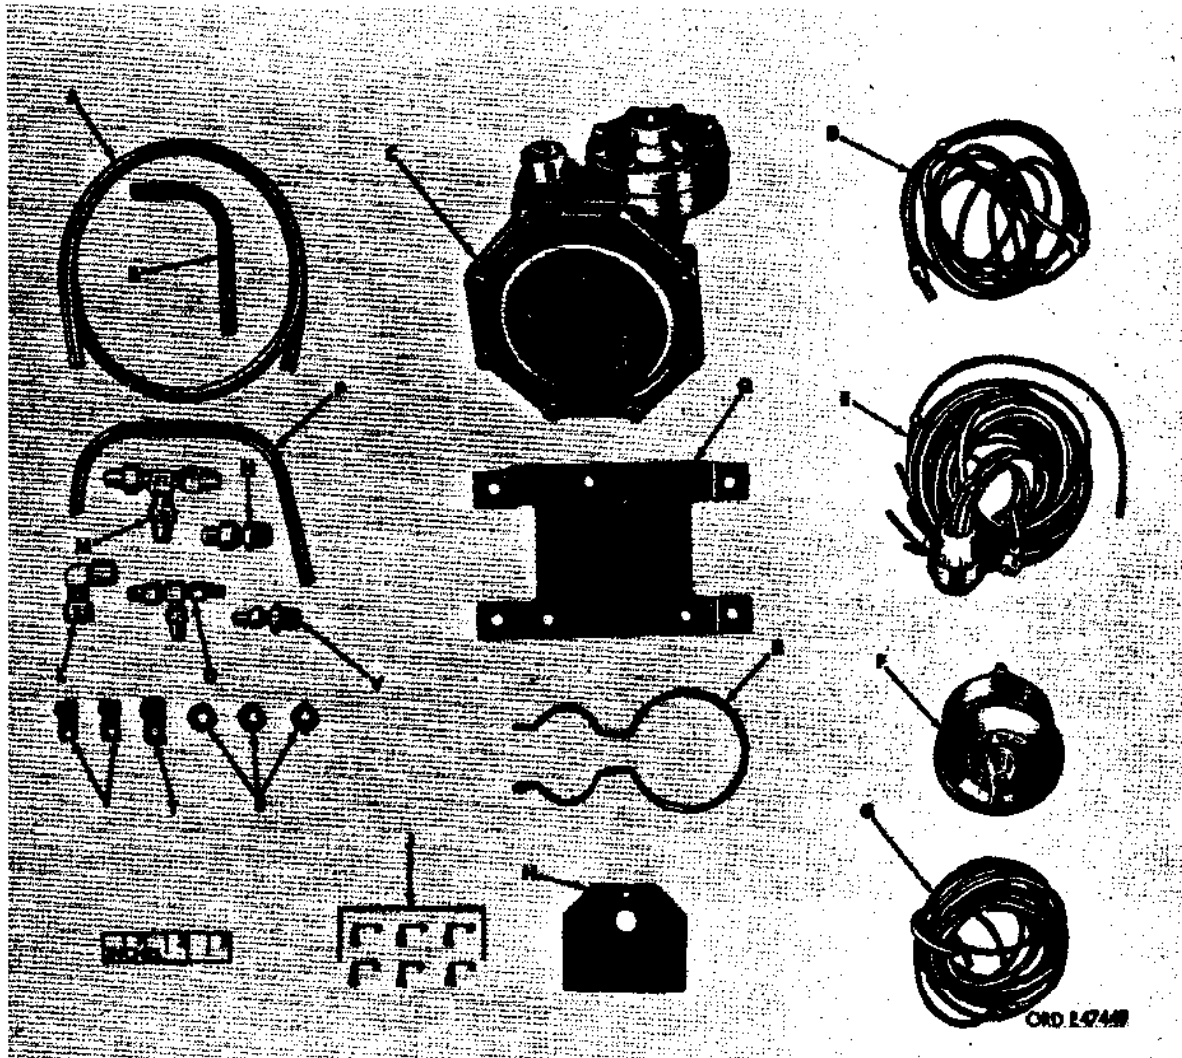
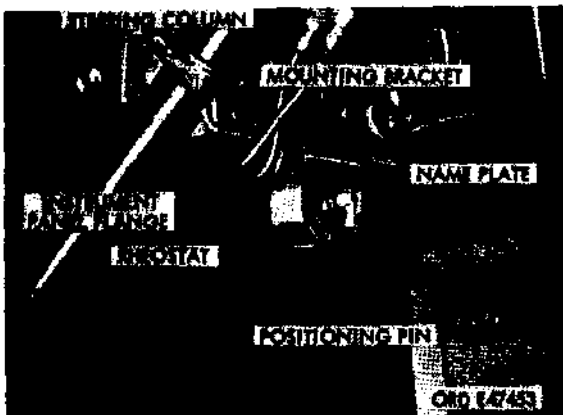

Figure 660. Principal components of kit
Figure 664. Rheostat installed on instrument panel flange
- (2) The rheostat has a 24-volt capacity and regulates electric current to the controller. The rheostat setting corresponds to the capacity of the electric brake system on the towed or trailer load. The rheostat is mounted on instrument panel flange and to right of steering column (fig. 664).
f. Install 3/8-inch tee (U, fig. 660) to air line and to controller, using pipe (B, fig. 660) and 3/8-inch connector (V, fig. 660).
g. Drill two 9/32-inch diameter holes in flange on instrument panel as shown in table (fig. 663). Install rheostat mounting bracket (H, fig. 660) on instrument panel, using two 1/4 x 1/2-inch machine bolts and self-locking nuts.
h. Install rheostat (E, fig. 660) on mounting bracket, first removing operating lever, retaining nut, lockwasher, and nameplate from rheostat to facilitate installation. Be sure positioning pin (fig. 664) is inserted in small hole at bottom of bracket and nameplate.